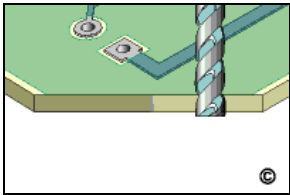

Figure 1: Cut away damaged base board material.
2. Cut away the damaged board material using the Saw. Remove all damaged material. No fibers of the base material should be exposed. File the edge to create a smooth flat surface. (See Figure 1).